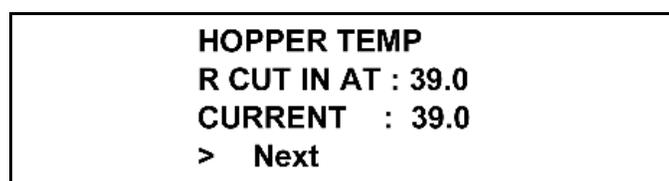

Figure 2-76
2. Save the setting by selecting the Calibration key  to advance to the next screen for the right-side hopper temperature setting. (See Figure 2-76.)